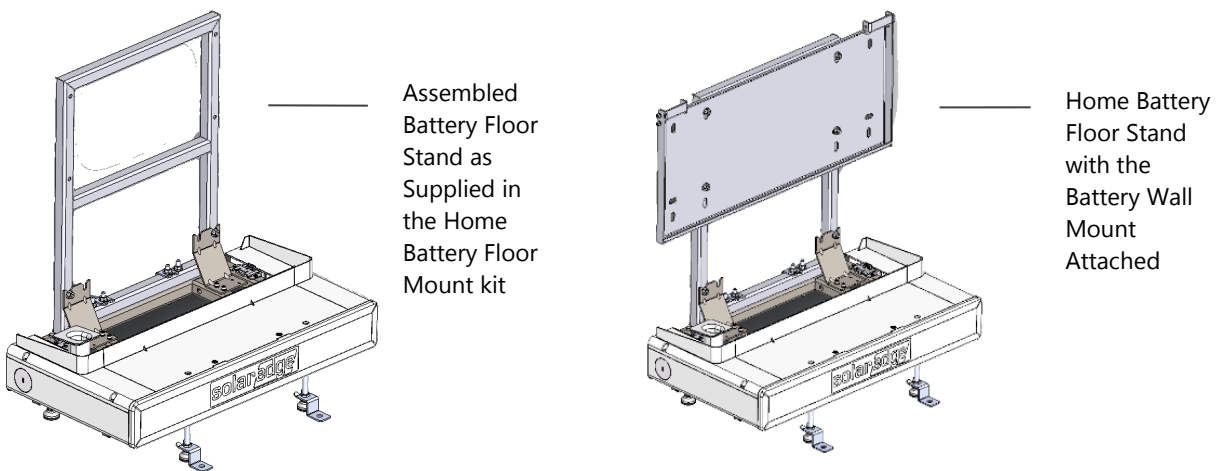

Figure 4: Assembled Floor Stand and Floor Stand with Battery Wall Mount
The assembled floor stand includes the base and back holder as illustrated on the left in the Figure 4. The right part of the figure shows the Battery Wall Mount after being attached to the assembled floor mount stand.
8. Loosely screw an M8 (1/2") nut onto each of the four back holder studs to hold the wall mount in place and then fully tighten at 17Nm/150 in lb to finally secure the wall mount as shown in Figure 4.